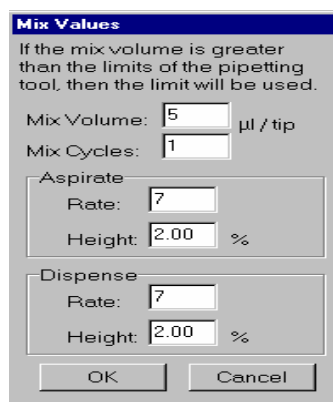

Figure 9. Setting mix values.
5.5.5 Uncheck the “Tip Touch” box on the Configure Transfer screen. Check the “Mix” option box then click on the “Mix Values” button and change the settings to the values seen on the Mix Values screen below (Figure 9). Select OK, then “Next” on the Configure Transfer screen to proceed.
5.5.6 The View Plates dialog screen (Figure 9) allows the user to exclude samples or empty wells that will not be used in the procedure. Highlight the wells that need to be excluded and click on the “Exclude Well” button. The sample volume and diluent volume used can also be viewed by clicking on the circle next to the Sample Volume or Diluent Volume designation; select “Next” to proceed.